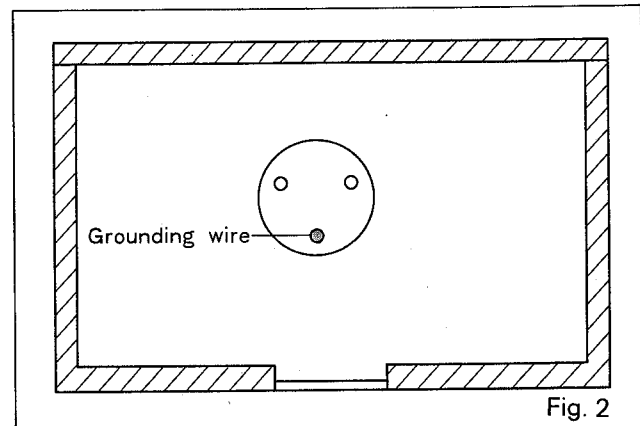
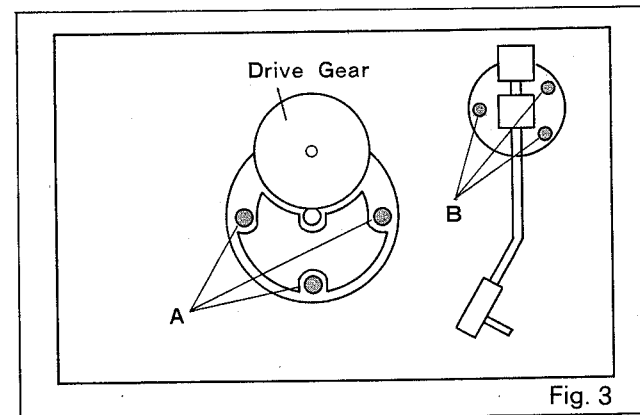

Fig. 2
Fig. 3
- (2) Remove the return plate ⑩ and return arm ⑧.
- (3) Disconnect with a nipper the lead wires of servo controller circuit board except for one from motor.
- (4) Remove the servo controller circuit board from the P.C.B. mounting spacer ⑧.
- (5) Disconnect with a nipper the grounding wire of motor (Fig. 2).
- (6) Place the set on a suitable bench with the surface of chassis upward.
- (7) Remove the drive gear ⑤.
- (8) Remove the three screws A which fasten the motor. (Fig. 3)
- (1) Remove the return plate. ⑩
- (2) Remove the shield case ③⑨, disconnect from the shield connector plate the lead wires coming from the tone arm and remove the wirings.
- (3) Loosen the screw ②⑧ which is placed in the tone arm fixing plate and remove the tone arm fixing plate ④①.
- (4) Remove the tone arm mounting nut ①⑤⑤.
- (5) Place the set on a suitable bench with the surface of chassis upward.
- (6) Remove the three screws B described in Fig. 3.
- Loosen the screws A in Fig. 3 which hold the motor.
- Yes: Loosen three screws (Fig. 3) which fasten the motor shaft, and adjust.